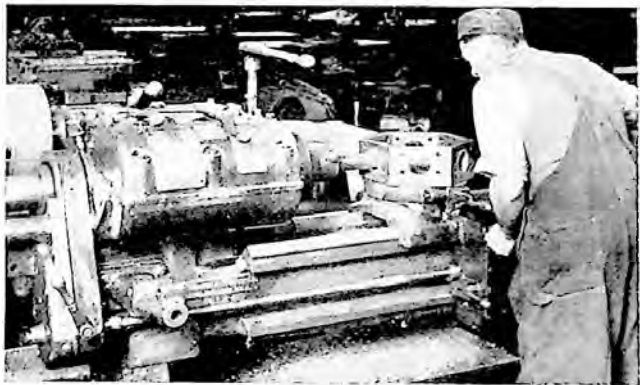
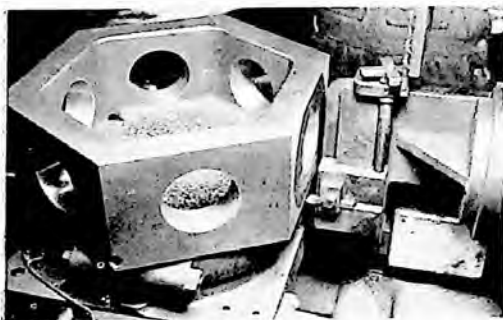

Fig. 5 — Reboring Turret Holes on Reconditioned Machine
Fig. 6—Refacing Turret with Fixture Mounted in Spindle
Another method sometimes used and recommended when the turret tool holes are in bad condition is to bore the holes oversize, install a bushing and rebore to standard size. Bushings can be purchased at the factory and the boring can be done on the turret lathe by using a boring bar in the chuck, as shown in Figure 5. The fixture used at the factory for re-facing turrets is shown in Figure 6.
5. Bore turret holes oversize, install bushings, and rebore to a standard size using a boring bar in the spindle chuck. See Fig. 5.
6. Reface turret with a fixture mounted in the spindle. If your machine is a Warner & Swasey, you may borrow the fixture (Fig. 6) used at the factory.